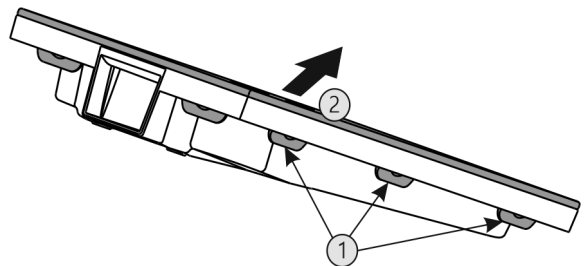

Fig. 49
- Press all lugs Fig. 49 (1) one after another and remove the cover Fig. 49 (2).